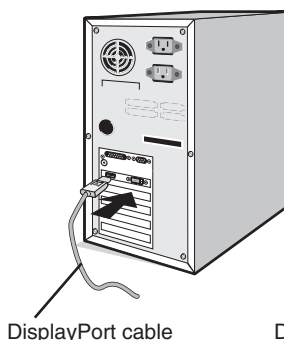

Figure A.1
2. **For a PC with DisplayPort output:** Connect the DisplayPort cable to the connector of the display card in your system (**Figure A.1**).